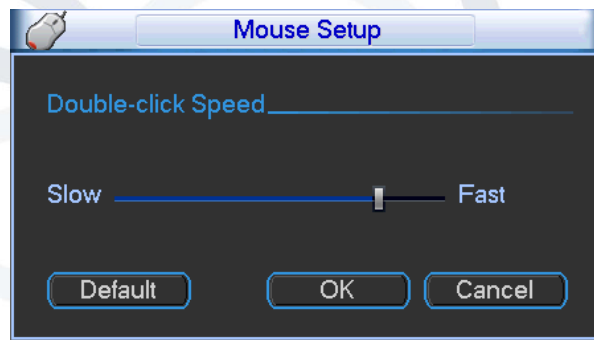

Figure 5-7
- **Holiday setup:** Click it you can see an interface shown as in Figure 5-7. Here you can set holiday date. Please go to chapter 4.5 Schedule to view or set the holiday date record setup.
- **Mouse property:** Click mouse setup button, you can go to mouse setup interface. See Figure 5-7. You can set double click speed via dragging the slide bard. You can Click Default button to restore default setup.